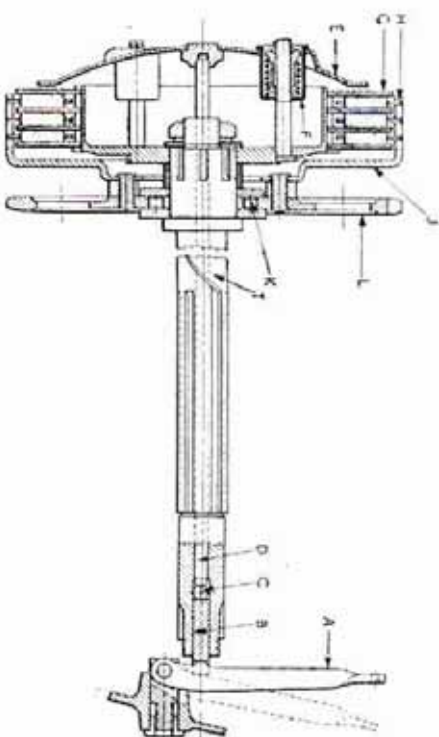

FIG. 33.—ILLUSTRATING CLUTCH OPERATION.
pressure on the clutch plain plates (G) and the clutch friction plates (H) (Fig. 33), and enables the clutch sprocket (L), to revolve on its bearing (K) without rotating the clutch hub, which is secured to the mainshaft (T). Consequently no power is transmitted to the rear wheel, and the clutch is said to be "out" or free.
On allowing the handle-bar clutch lever to return to its normal position so that the gearbox clutch-operating lever (A) (Fig. 33) is free, the clutch thrust-rod (D), ball (C),